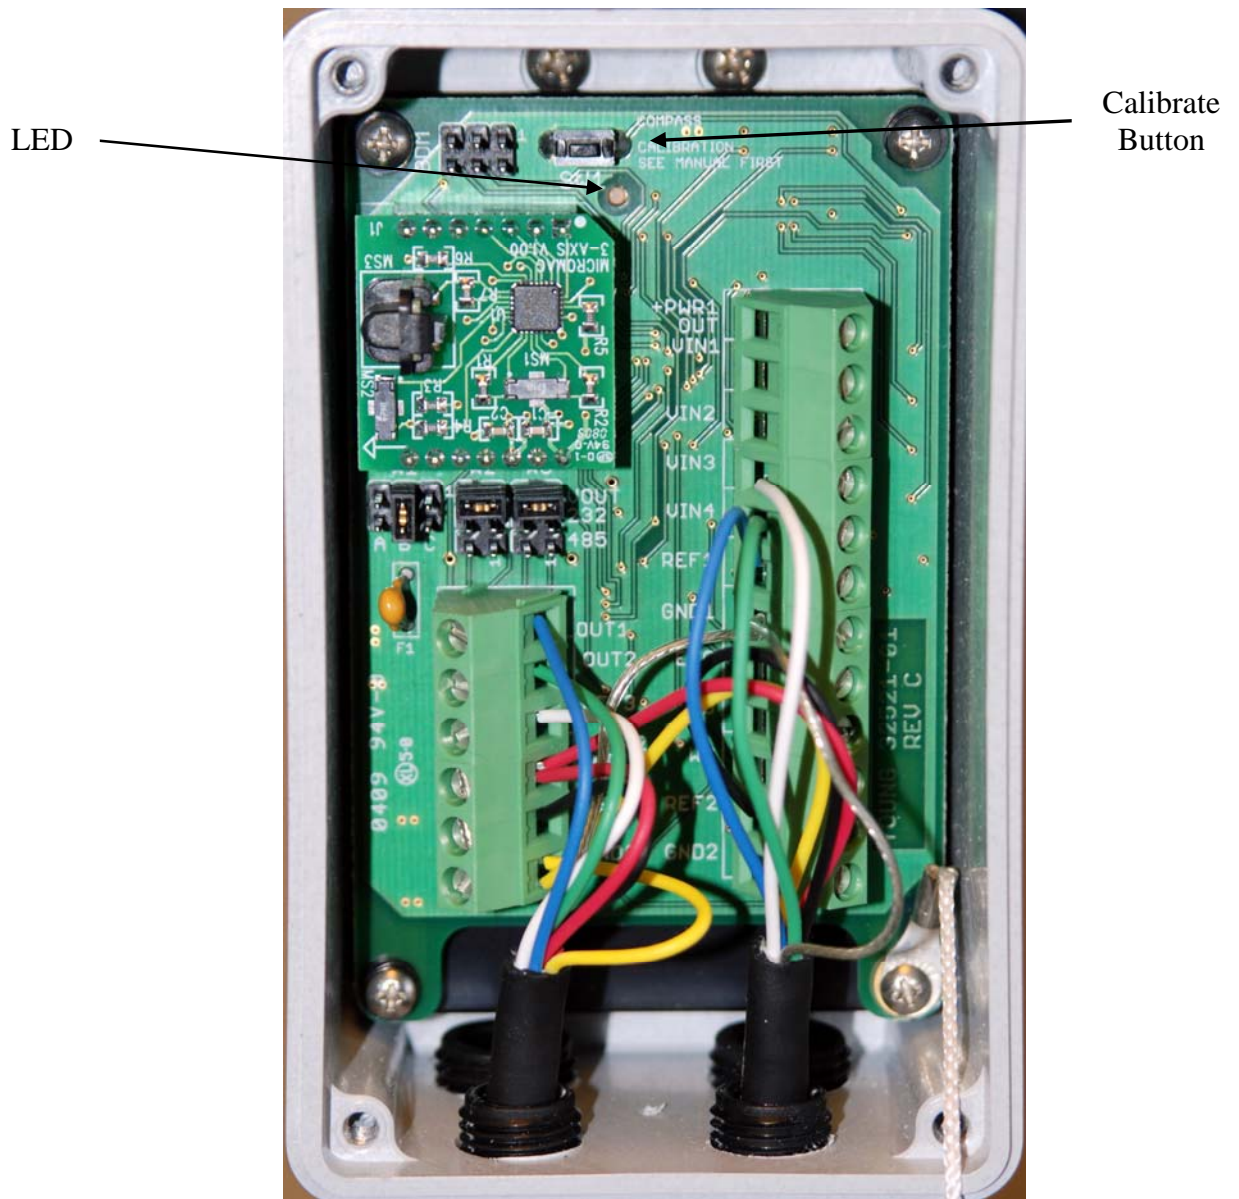

Figure 5. Compass Enclosure and Circuit
- Press and hold the calibrate button for 5 seconds (see Figure 5). The indicator light will begin to blink. See the 32500 The calibration button and light are located at SW1 at the top centre of the 32500 circuit board.